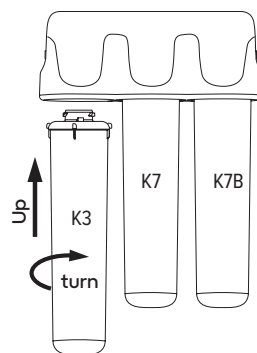

Fig. 5
- Insert the new cartridge into the housing to a stop and, pressing it slightly, rotate the cartridge clockwise to a click (Fig. 5).
Pay attention to the order in which the cartridges are installed. The positioning of the cartridges in the water purifier system is shown in fig. 5. – then follow the steps from the section “After installing and connecting the Fountain”.